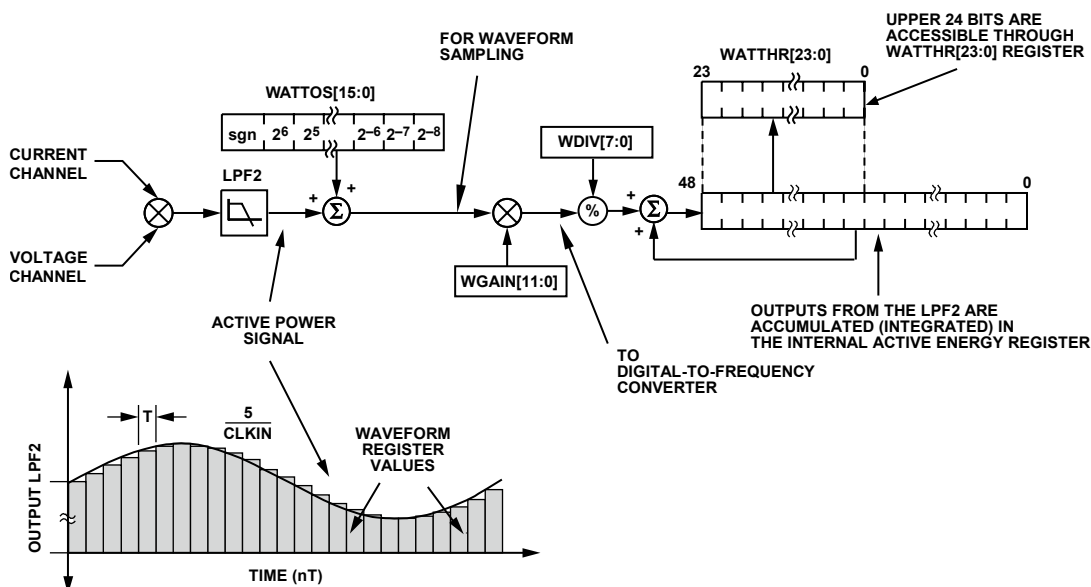

Figure 65. Active Energy Calculation
Figure 65 shows the signal processing chain for the active power calculation in the ADE7566/ADE7569/ADE7166/ADE7169. As explained previously, the active power is calculated by filtering the output of the multiplier with a low-pass filter. Note that when reading the waveform samples from the output of LPF2, the gain of the active energy can be adjusted by using the multiplier and watt gain register (WGAIN[11:0]). The gain is adjusted by writing a twos complement 12-bit word to the watt gain register. Equation 12 shows how the gain adjustment is related to the contents of the watt gain register.
The discrete time sample period (T) for the accumulation register in the ADE7566/ADE7569/ADE7166/ADE7169 is 1.22 μ s (5/MCLK). In addition to calculating the energy, this integration removes any sinusoidal components that may be in the active power signal. Figure 65 shows this discrete time
The output of the multiplier is divided by the value in the WDIV register. If the value in the WDIV register is equal to 0, the internal active energy register is divided by 1. WDIV is an 8-bit unsigned register. After dividing by WDIV, the active energy is accumulated in a 49-bit internal energy accumulation register. The upper 24 bits of this register are accessible through a read to the active energy register (WATTHR[23:0]). A read to the RWATTHR register returns the content of the WATTHR register, and the upper 24 bits of the internal register are cleared. As shown in Figure 65, the active power signal is accumulated in an internal 49-bit signed register. The active power signal can be read from the waveform register by setting the WAVMODE register (0x0D) and setting the WFSM bit in the Interrupt Enable 3 SFR (MIRQENH, 0xDB). Like the current and voltage channels waveform sampling modes, the waveform data is available at sample rates of 25.6 kSPS, 12.8 kSPS, 6.4 kSPS, or 3.2 kSPS.